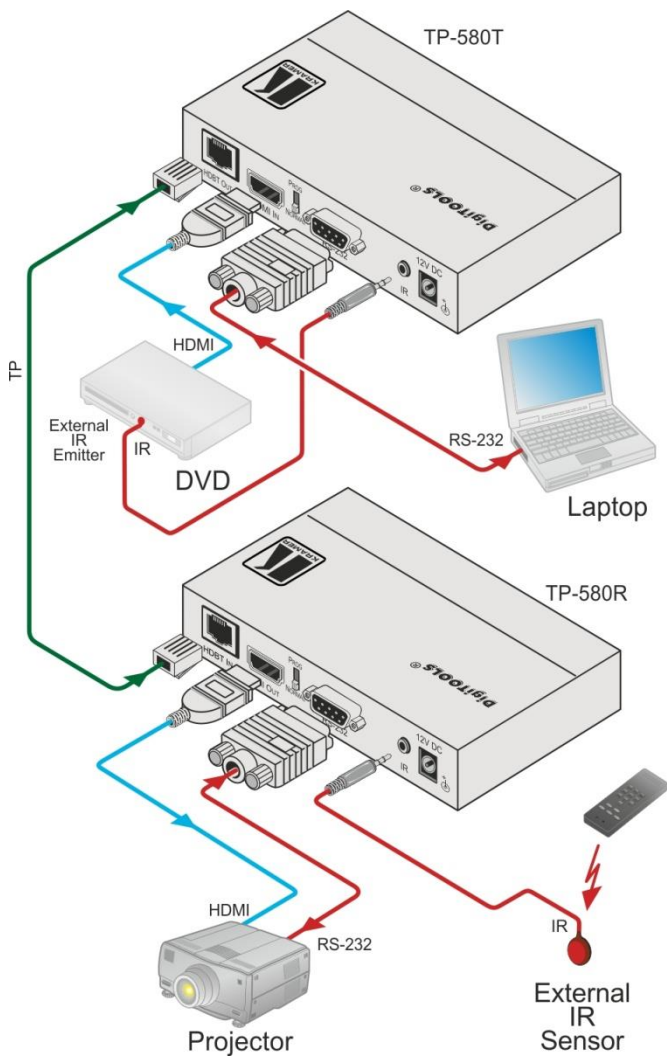

Figure 4: Connecting the TP-580T/TP-580R Transmitter/Receiver Pair
You can use the **TP-580T HDMI Line Transmitter** and the **TP-580R HDMI Line Receiver** to configure an HDMI transmitter/receiver system, as shown in the example in Figure 4.
5. 12V DC power adapter to the power socket and connect the adapter to the mains electricity (not shown in Figure 4).
10. 12V DC power adapter to the power socket and connect the adapter to the mains electricity (not shown in Figure 4).